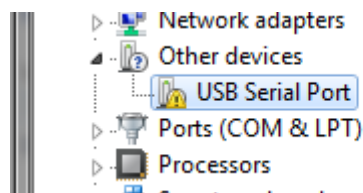

Figure 5. USB Serial Port
7. Repeat the same steps for the instance of "USB Serial Port" that should have appeared as shown in Figure 5.